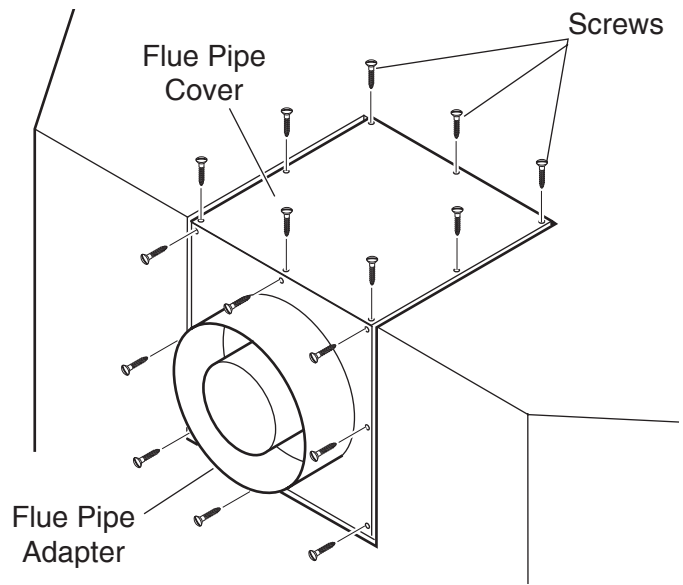

Figure 9 - Removing sixteen (16) Screws from Flue Pipe Adapter and Flue Pipe Cover
1. Remove the eight (8) screws securing the flue pipe adapter to the fireplace body. See Figure 9.
3. Remove the eight (8) screws securing the flue pipe cover to the top of the intake box and remove the cover and gasket. See Figure 9.